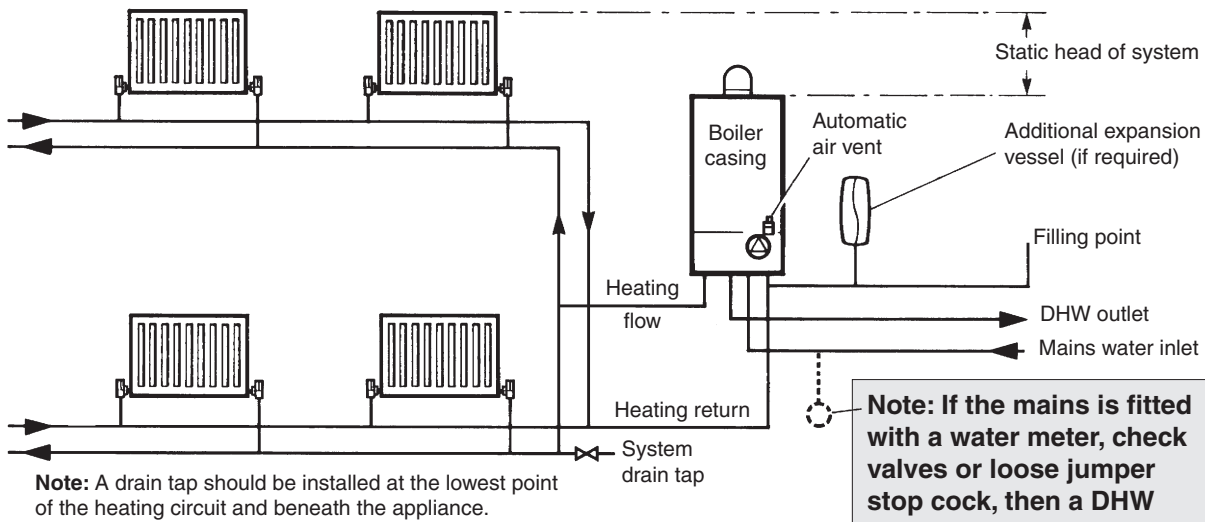

Fig. 4.5
#### 4.7 CENTRAL HEATING SYSTEM - Fig. 4.5
**System volume** - The expansion vessel incorporated into the boiler is suitable for a sealed heating system with a maximum water content of 80 litres (18 gal). Above 80 litres, consideration should be given to fitting an additional expansion vessel fitted in the position shown in Fig. 4.5. To check correct operation of the expansion vessel(s) the system pressure should not be more than 2.5 bar when the system is at maximum operating temperature (for further guidance refer to BS 7074:1).
The system design pressure (cold) should be set to 1.0 bar. This pressure is equivalent to a static head (see Fig. 4.5) of 10.2 metres of water.